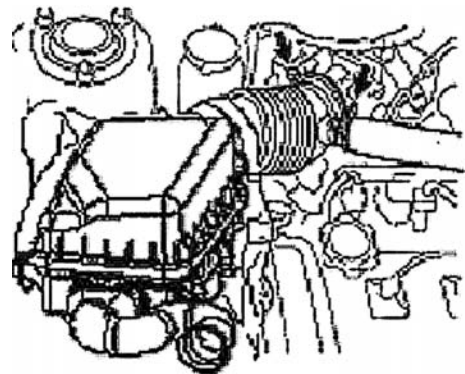

Figure 38
2. Remove air filter assembly with hose. See (Figure 38)